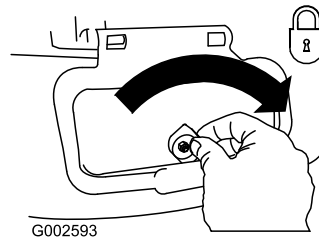

Figure 21
**Important:** Lock the side-discharge deflector after you close it (Figure 21).